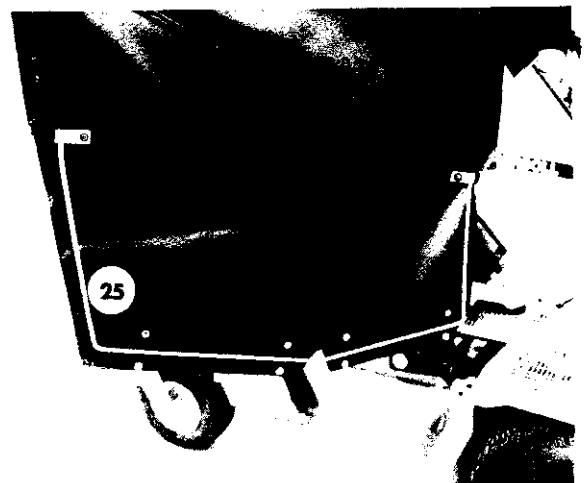

FIGURE 13
**STEP 13; SEE FIGURE 13:**
- B. Place the DOOR BOTTOM (25) over the bolts add nuts and tighten. Close the snap flaps around the rod.